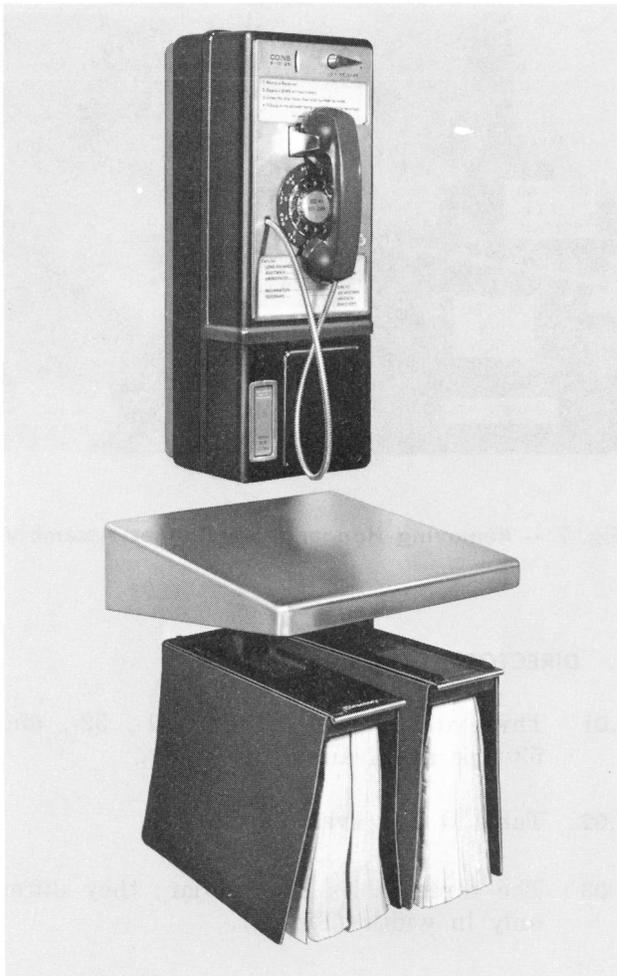

Fig. 4 — KS-20029, List 2 Directory Shelf
4.01 The KS-20029 directory shelf (Fig. 4) is a stainless steel shelf for use below or adjacent to a coin telephone in semipublic locations, or on the side of an indoor booth.